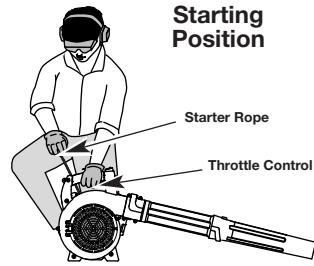

Fig. 13
**WARNING:** Avoid accidental starting. Make sure you are in the starting position when pulling the starter rope (Fig. 13). To avoid serious injury, the operator and unit must be in a stable position while starting. To avoid serious personal injury, make sure that the blower tube is locked in place or firmly installed.
- NOTE:** The unit should be started in idle. Do not squeeze the trigger while starting (Fig. 13).
5. Crouch in the starting position (Fig. 13) and pull the starter rope out until you feel some resistance. This is usually around 2-4 inches. Pull 4 times in smooth and rapid pulls.